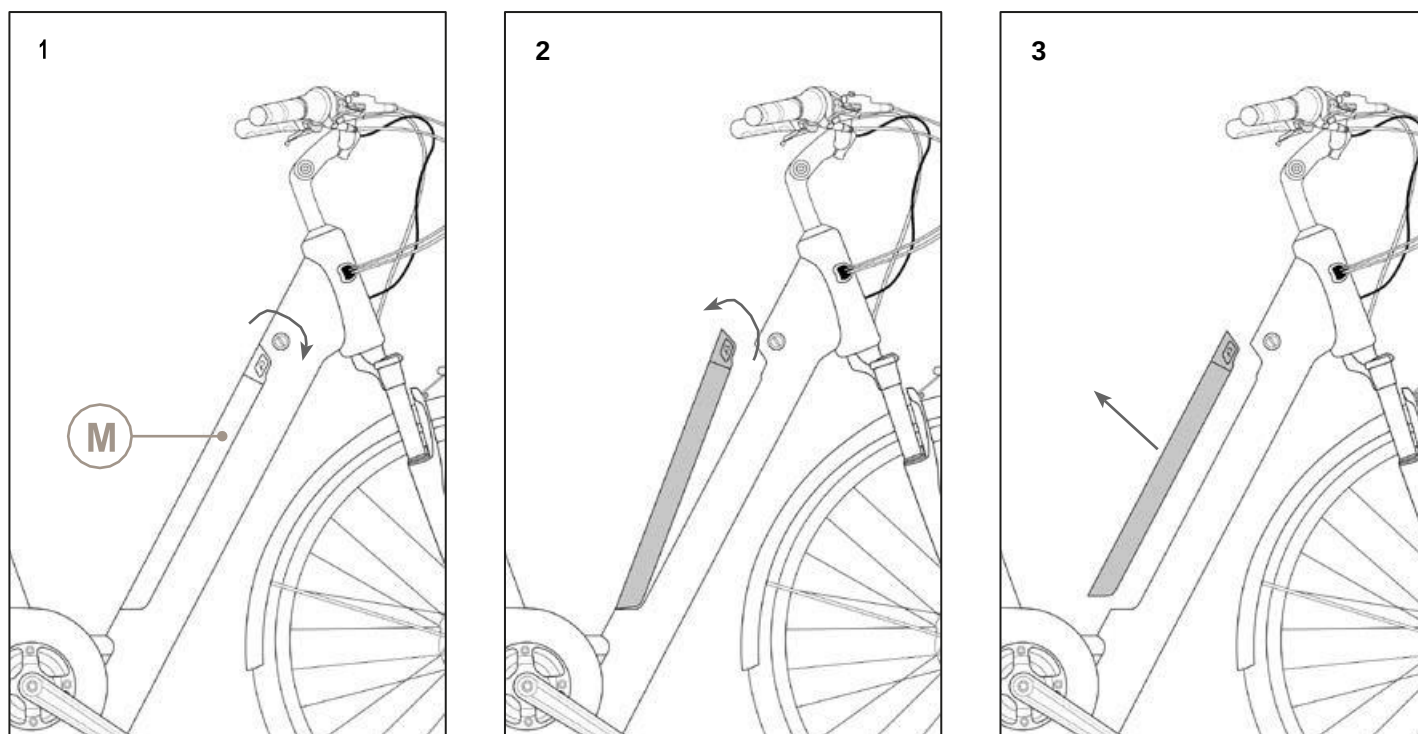

FIG. 12
The bicycle provides pedaling assistance via an electric motor powered by the battery located in the down tube of the frame (Ref. M - Fig. 12). The battery charge status can be viewed directly on the display or via the charge indicator on the battery body (Fig. 11).
2. Unhook and lift the battery (Fig. 12 - 2);